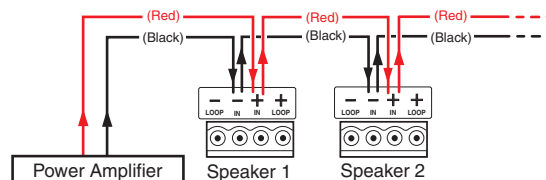

Figure 35. Wiring Multiple Speakers in Parallel
- **Wiring Multiple Speakers in Parallel:** Connect the wires to the captive screw connectors of the speakers, as shown in figure 35. Be sure to tighten the screws.